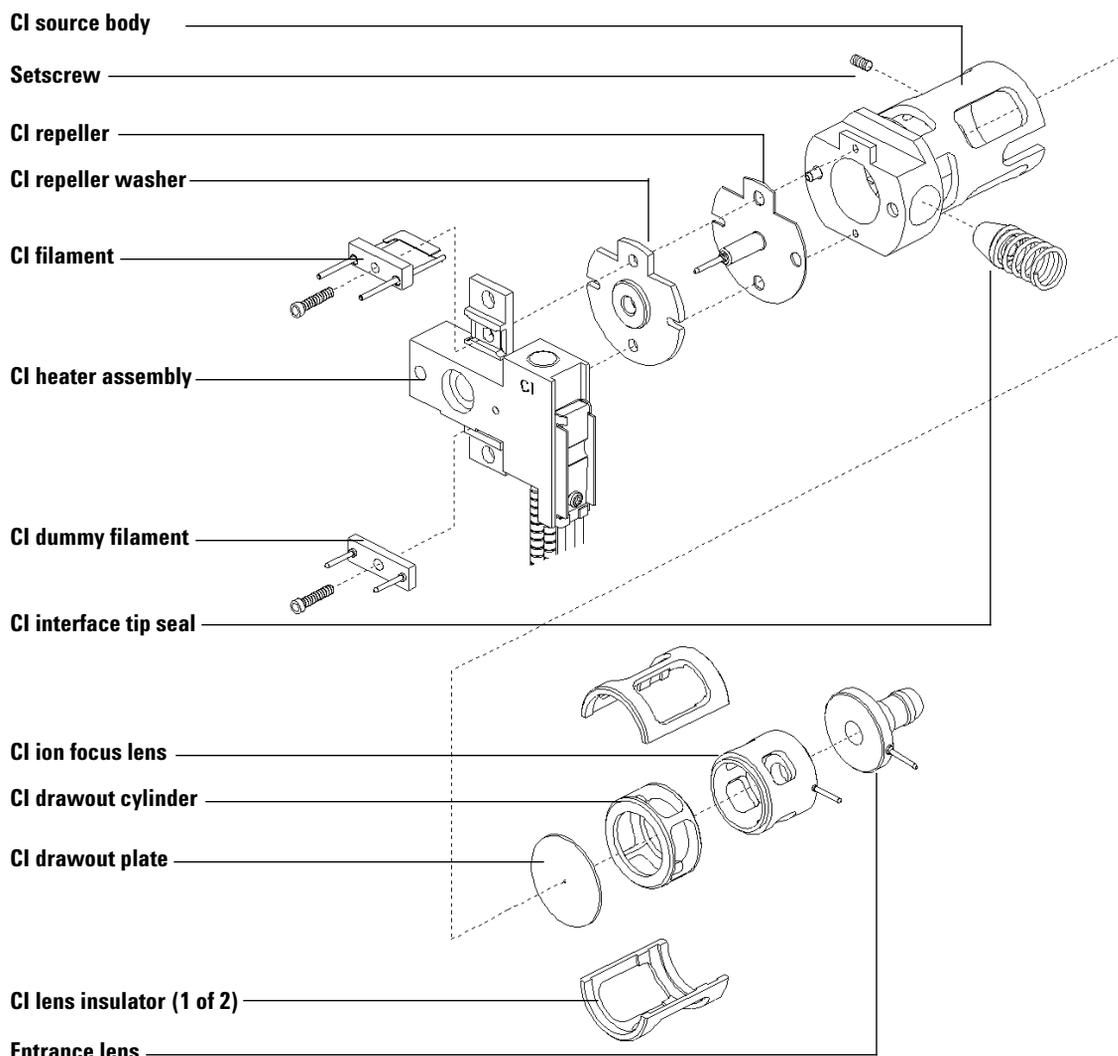

Figure 34 Exploded view of the CI ion source
- 2 Slide the drawout plate and the drawout cylinder into the source body (Figure 34 on page 168).